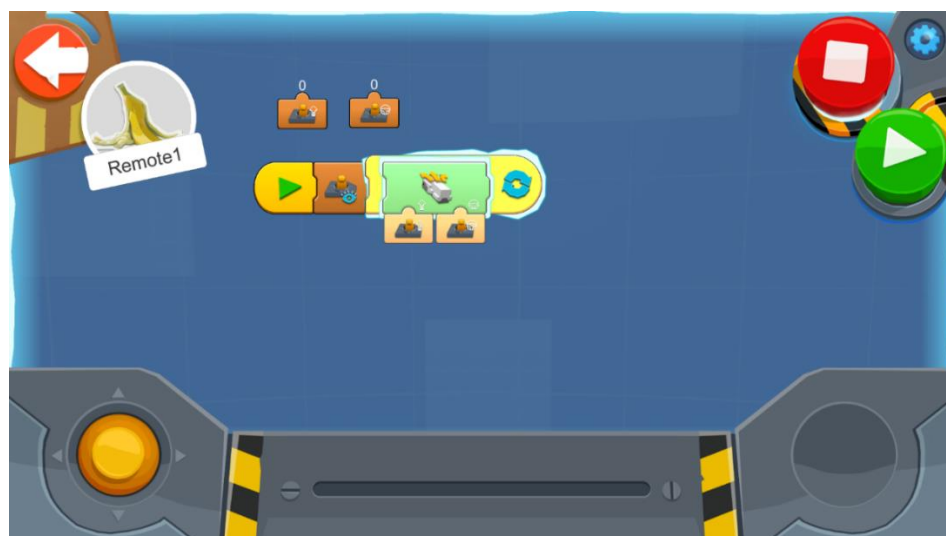

Figure 61: Program - Joystick Controller
1. The **Joystick Widget Show** will show the joystick controller on the app (See Figure 61).